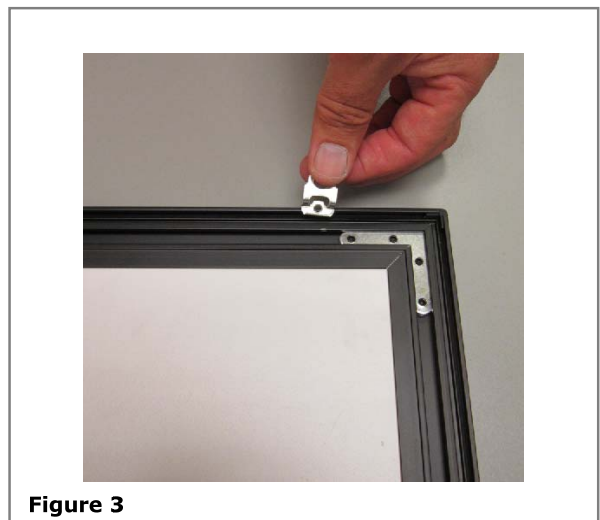

Figure 3
2. Insert the supplied mounting clips into the groove on the top rear of the frame at an angle of approximately 45 degrees. **See Figure 3.**
3. If the locking screw is already installed in the mounting clip, remove it and then, using your thumb, apply pressure to the upper portion of the clip, snapping it into the channel. **See Figure 3.**